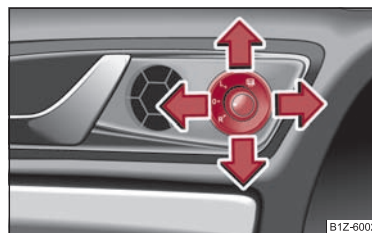

Fig. 46 Inner part of door: Rotary knob
- Turn the rotary knob to position  ⇒ fig. 46.